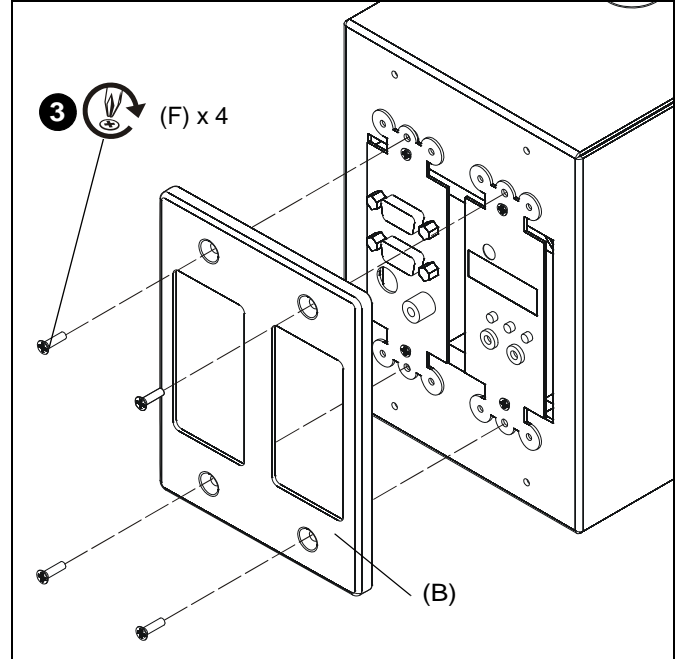

Figure 6
3. Install outlet cover (B) over installed HB module using four #6-32 x 1/2" Phillips flat machine screws (F). (See Figure 6)